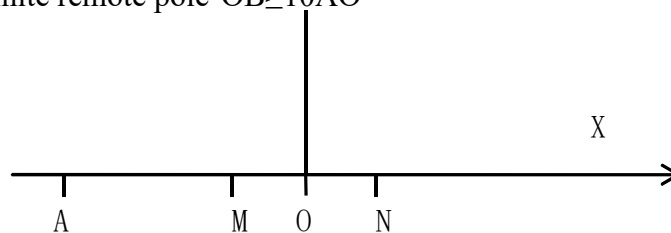

Fig.27: Three-pole Electrical Sounding (3P-VES)
tilted toward A (A1 in Fig.27)
b) Reverse orientation: A located on exploration line but borehole not tilted toward A (A2 in Fig.27)
c) Secondary orientation: A not on exploration line but perpendicular to it (A3, A4 in Fig.27)